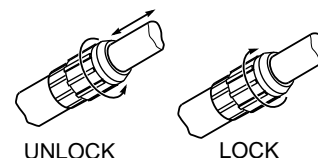

Figure 8 - Extending Telescopic Pole
1. To extend the pole, loosen coupling by turning coupling nut counterclockwise as shown in Figure 8. The tension on the coiled cord inside the pole may cause some resistance when extending the pole for the first few uses. The coiled cord will relax with use and the tension will be reduced.
3. To lock pole in position, tighten coupling by turning coupling nut clockwise (see Figure 8) until firmly hand tight. Make sure saw handle is aligned with pole handle before tightening coupling nut. **IMPORTANT:** Do not use wrench or pliers to overtighten coupling. Damage to coupling or pole may result.